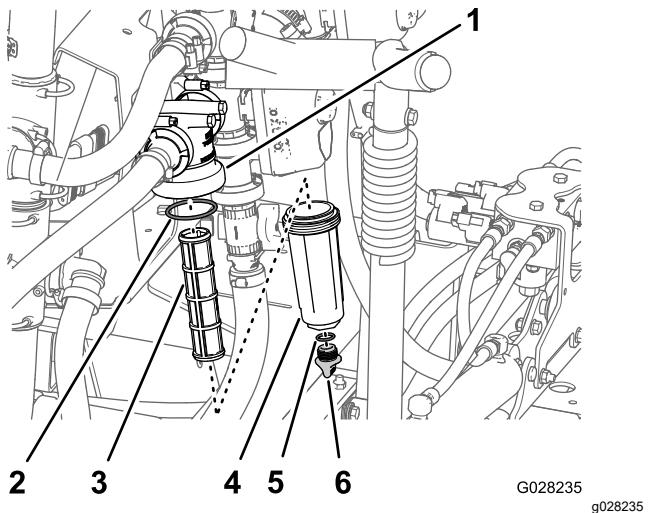

Figure 104
3. Rotate the drain plug counterclockwise and remove it from the bowl of the pressure filter (Figure 104).
4. Rotate the bowl counterclockwise and remove it from its filter head (Figure 104).
5. Remove the old pressure-filter element (Figure 104).
6. Check the O-ring for the drain plug (located inside the bowl) and the O-ring for the bowl (located inside the filter head) for damage and wear (Figure 104).
7. Install the new pressure-filter element into the filter head (Figure 104).
8. Install the bowl onto the filter head and tighten by hand (Figure 104).
9. Install the plug into the bowl and tighten by hand (Figure 104).